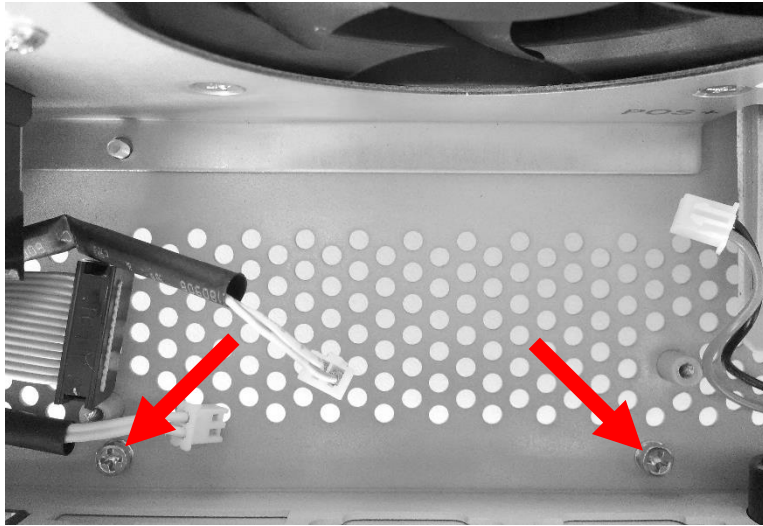

Figure 6: Remove screws from parallel connector cover
7. Remove the two screws shown in Fig. 6, which attach the metal parallel connector cover to the inverter. These screws are no longer required.